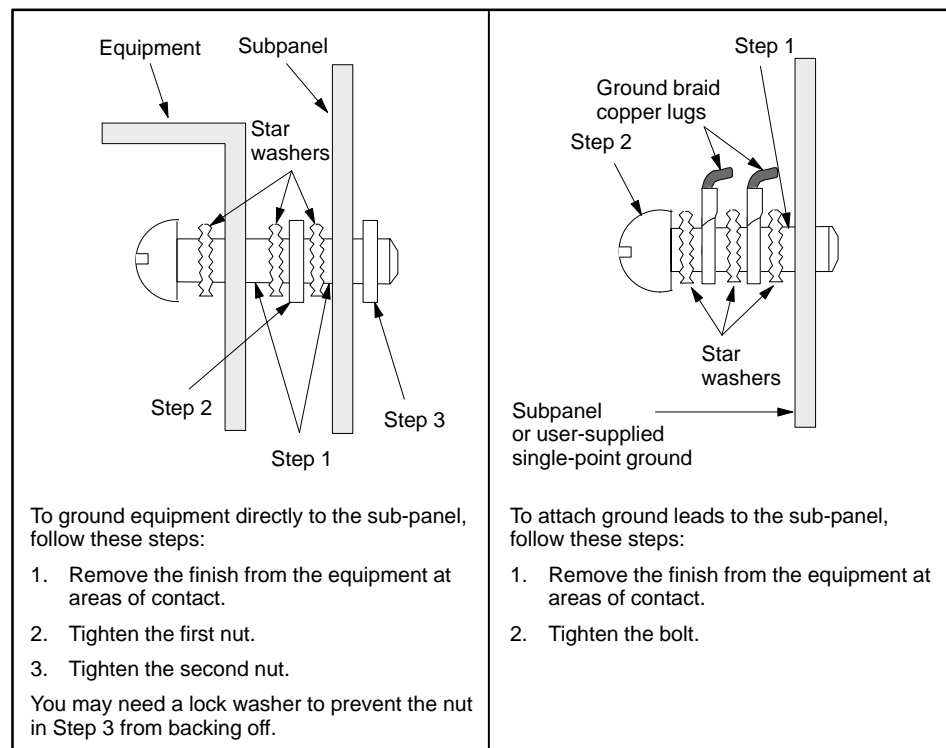

Figure 2-12 Example of Ground Connections
- Paints, coatings, and corrosion can prevent good electrical contact at ground points. Remove these impediments in the area of contact and use external toothed lock washers (star washers) to ensure good continuity and low impedance. This practice should be used for all terminations—lug to subpanel, device to lug, device to subpanel, subpanel to conduit, etc. Examples of ground connections are shown in Figure 2-12.